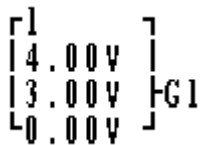

Fig 24
There are 5 analog compare functions modes in the KBMS2. The analog input(s) are to be compared must be 0-9.99VDC. Up to 15 analog compares function blocks can be used in the logic program of the KBMS. These function blocks compare the values of 1 or 2 analog inputs with each other or with a reference value within the function block. The function block control bits are used to determine the function mode. Figure 24 is an illustration of the analog function showing the control bits and analog and reference values. In the example, the “1” is the function mode type, “4.00V” is the voltage on analog input 1 (A1), “3.00V” is the voltage on analog input 2 (A2) and the “0.00V” is the reference (R).